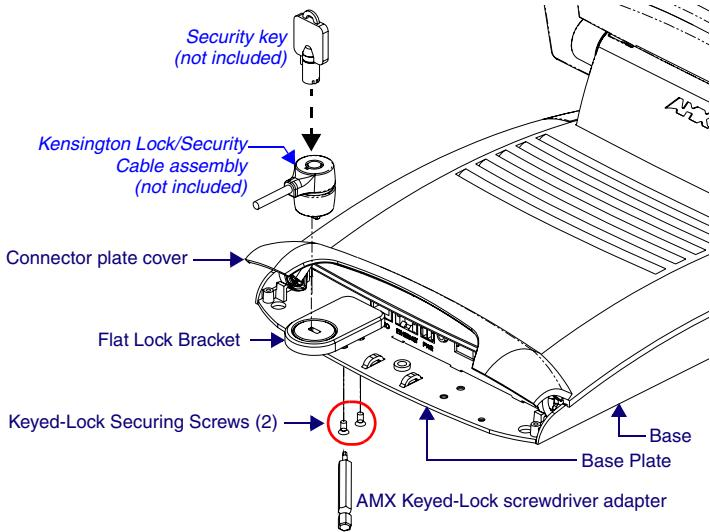

FIG. 7 Flat Lock Bracket - Components and Installation
2. Align the openings on the bottom of the Flat Lock Bracket to the securing locations on the left side of the touch panel connector plate (located under the connector plate cover, as indicated in FIG. 7).
3. Insert two Keyed-Lock Securing Screws into their respective locations (FIG. 7).
4. Use the AMX Keyed-Lock screwdriver adapter to tighten the screws and secure the Flat Lock Bracket to the base plate (FIG. 7).